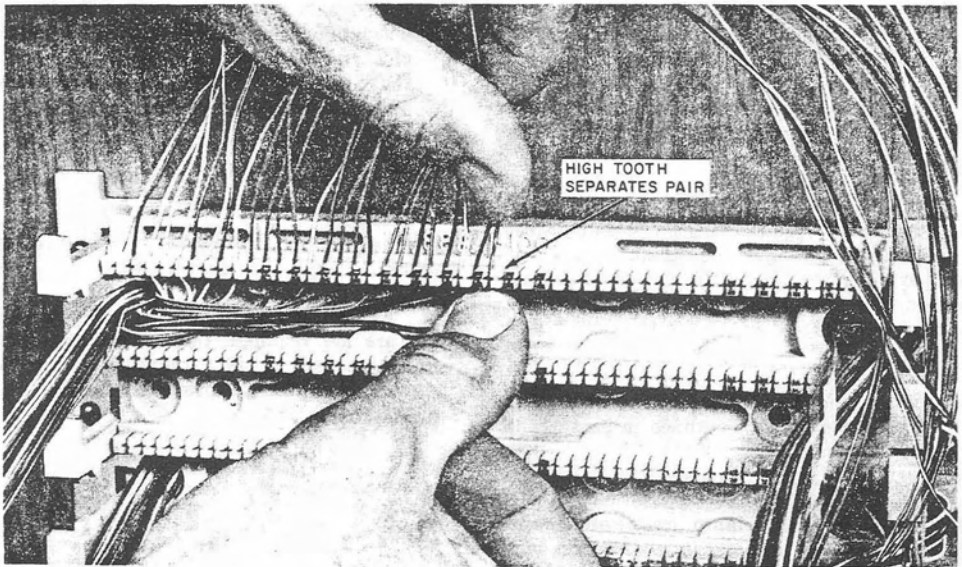

Fig. 12—Placing Conductors in Index Strip
3.04 Remove the gray PVC jacket and the metallic shield from the 24-gauge stub cables of the 134-type protectors. Feed the cable binder groups behind the feeder wiring block(s) and in color code sequence through the cable slots on each side of the wiring block. Place the blue-white binder group (pairs 1-25) in the top left cable slot, orange-white binder group (pairs 26-50) in the top right cable slot, etc. Binder groups entering on the left side of the wiring block shall be terminated on the **top** index strip; binder groups entering on the right side shall be terminated on the **bottom** index strip. Place the cable conductors in the index strip following the even-count color code starting with white-blue, white-orange, etc (Fig. 12). The high tooth on the index strip separates the pair. Light finger pressure is sufficient to hold the conductors in the index strip.